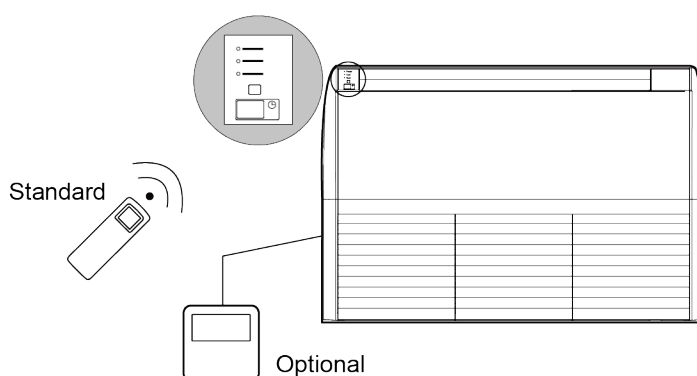

Fig.5.4.2
- (5) Both IDU and wired controller are equipped with signal receiver, and available for remote control respectively. (Fig.5.4.2)